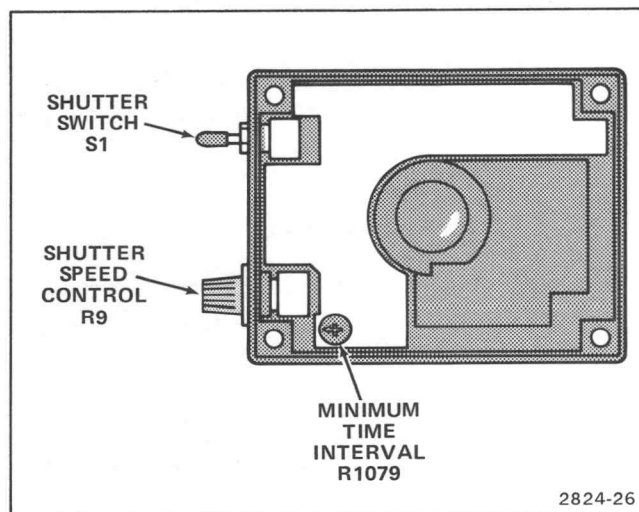

Figure 4-4. Location of minimum time control adjustment.
- n. ADJUST — Minimum Time Interval R1079 for a waveform pulse width of five divisions at the mid-point of the vertical deflection while pushing the Shutter switch down repeatedly to TIMED SHUTTER. Use the nylon alignment tool for this adjustment. Refer to Figure 4-4 for the location of R1079.